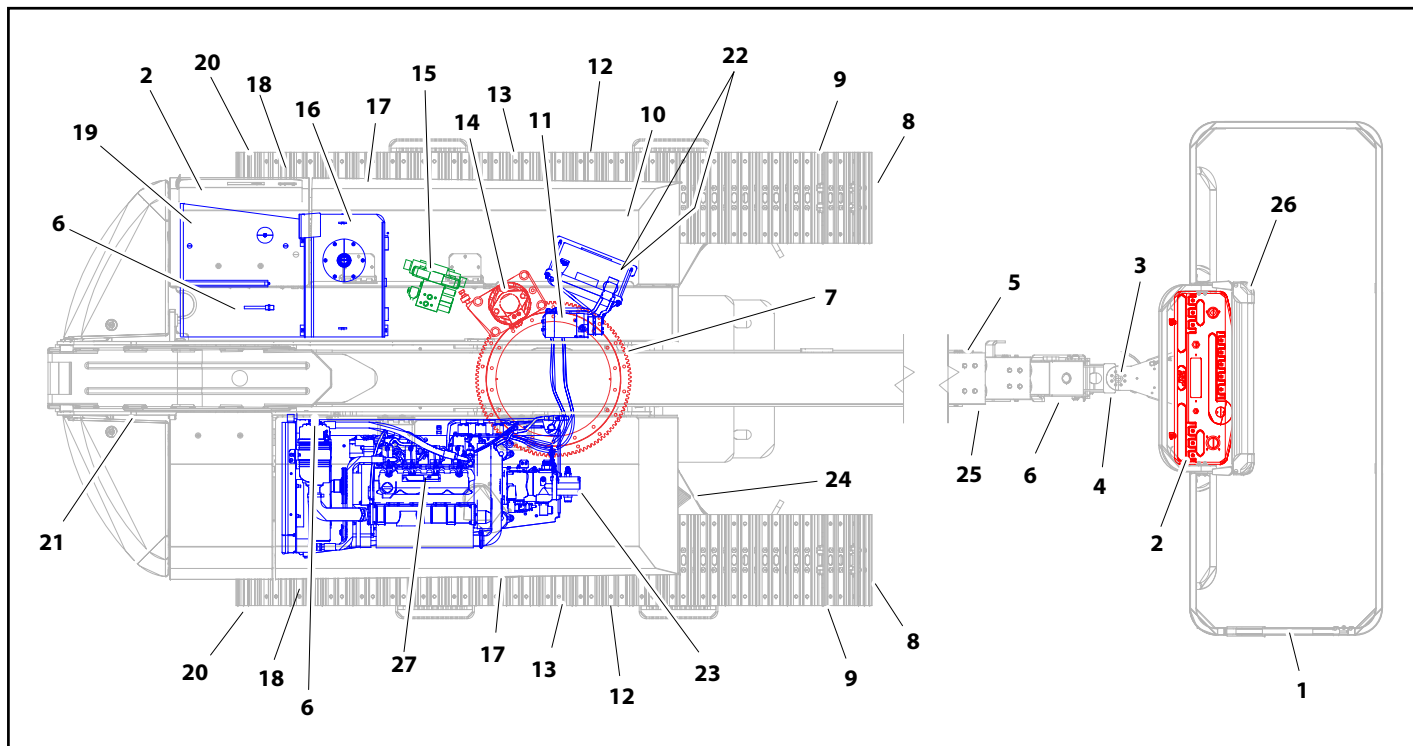

Figure 2-4. Daily Walk-Around Inspection Diagram
5. **“Walk-Around” Inspection** – Refer to Figure 2-4., Figure 2-5. and Figure 2-6.